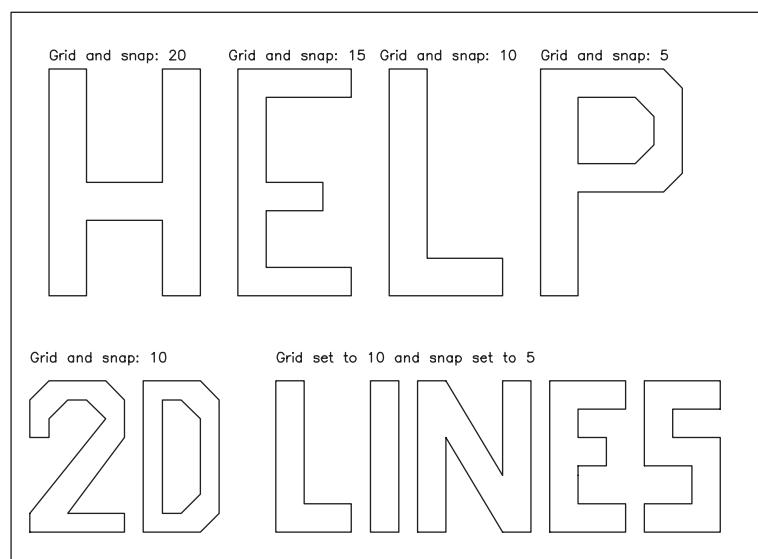

Figure 4.1 Using the GRID and SNAP draughting aids to draw lines.
- Refer to Figure 4.1 and use the LINE command to draw the letter H using the set grid and snap settings of 20.
- 9 *Task:* Refer to Figure 4.1 and: